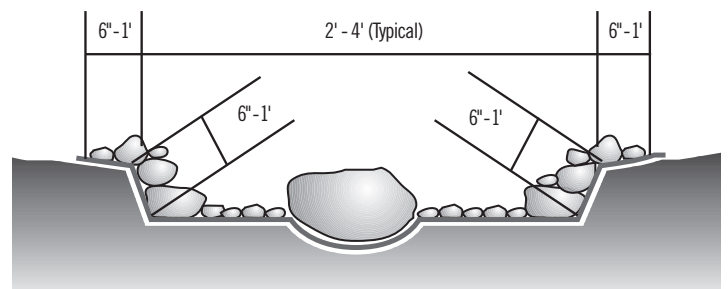

Fig. 16
- Lay out the stream from the BIOFALLS® filter to the pond. The typical width of a stream should be between 2 - 4 feet wide (*Note: the wider the stream, the less movement of water you will have*). Vary the width of the stream throughout to mimic what would occur in nature. (See fig. 16)